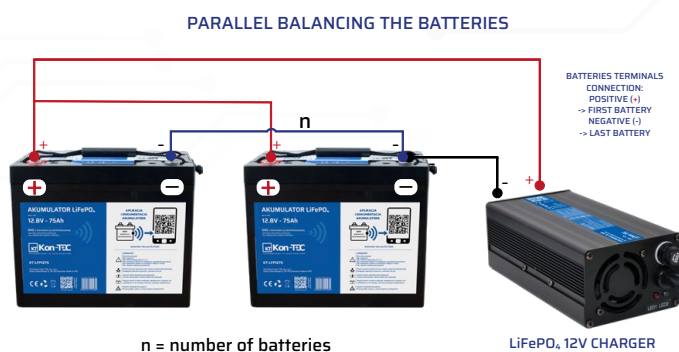

Fig.2 Parallel balancing of batteries
**Method 2:** (in order not to charge the batteries separately/individually): Connect the batteries in PARALLEL (Fig.2), and then connect the LiFePO4 Kon-TEC 12V charger (accurate 14.6V) to the batteries as follows: